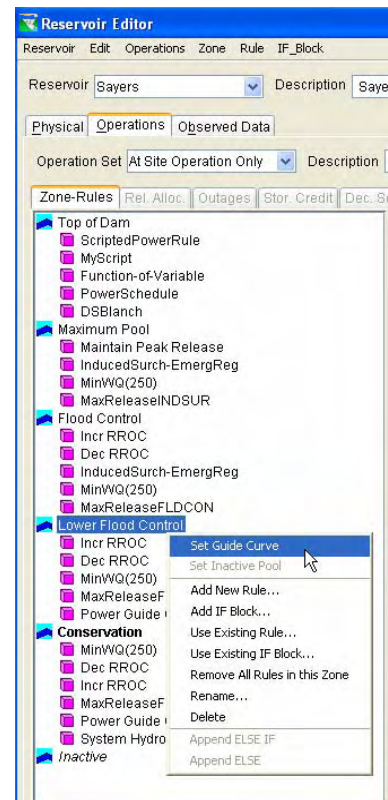

Figure 11.94 Operations Tab, Set Guide Curve
6. In the **Zone-Rules** panel of the **Operations** tab in the Reservoir Editor, select (highlight) the zone to be used as the Guide Curve. Right-click on the zone to bring up the context menu where you can select **Set Guide Curve** (Figure 11.94).